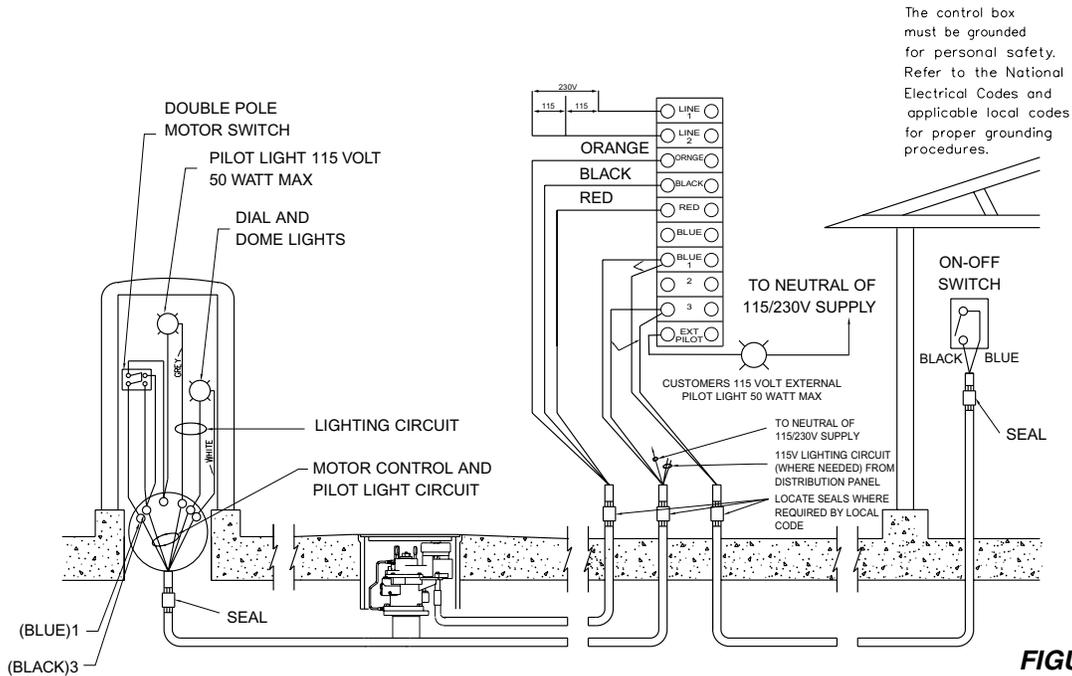

FIGURE 3
The motor control box must be located away from the fueling area in a nonhazardous location (see Fig. 3).
3. Connect wires from terminal Blue-1 and terminal 3 in motor control box to dispenser control switches (if dispensers are used) and "on-off" switch at loading rack as shown in Fig. 3.
5. If an external pilot light is desired to indicate when the submerged pump is operating, wire as shown in Fig. 3, 4 or 5. Should this light continue to burn when all switches at dispensers and loading racks are off, this indicates that one of the dispenser switches is out of adjustment. On installations with no external pilot light, the submerged pump should be checked to make sure it is not operating when all switches are turned off.